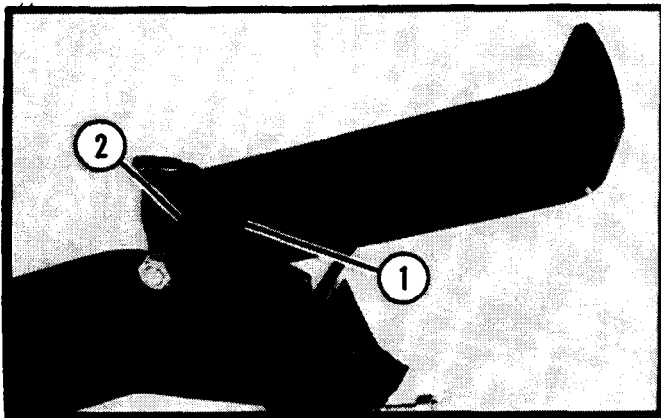

Figure 19
3. Using the locking lever provided with the Lawnaire V Accessory Kit, attach the locking lever onto the wheel stop using the BOTTOM hole of the locking lever. Reverse the procedure in Step 2 for installation (See Figure 19 For Finished Assembly).